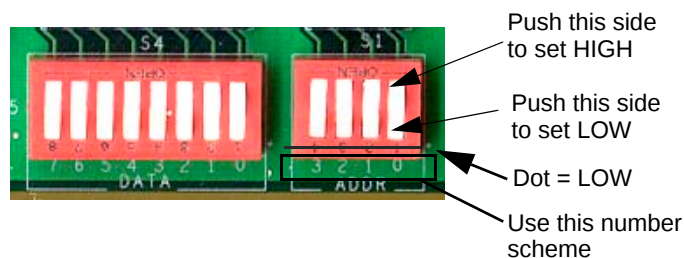

Figure 6-2. Controlling Dip Switch Settings
The 2-level dip switches (DATA[7:0](S4), ADDR[3:0] (S1), RCLKEN[D..A] (S7), INSEL[D..A] (S3), ULC[D..A] (S3), and LPEN[D:A] (S2)) are set HIGH or LOW as illustrated in *Figure 6-2*. Once again, the side of the switch with a dot represents the LOW level side.
Note. Disregard the numbering scheme that is inscribed directly on the DIP switches. Follow the numbering inscribed on the board, directly below each switch. See *Figure 6-2*.
1. Using the ADDR (S1) DIP switches shown in *Figure 6-2*, select the target address. For example, if the target address **ADDR[3:0] = 1010**, press ADDR0 to the LOW side (see *Figure 6-2*), ADDR1 to the HIGH side, ADDR2 to the LOW side and ADDR3 to the HIGH side.
2. Using the DATA (S4) DIP switches shown in *Figure 6-2*, select the values of the latches for the appropriate address bank. *Table 6-1* provides an example of a control latch configuration for address 10 (**ADDR[3:0] = 1010**), where **DATA[7:0] = 10111010**. The colored background represents a logic-1 value and the white background represents a logic-0 value.